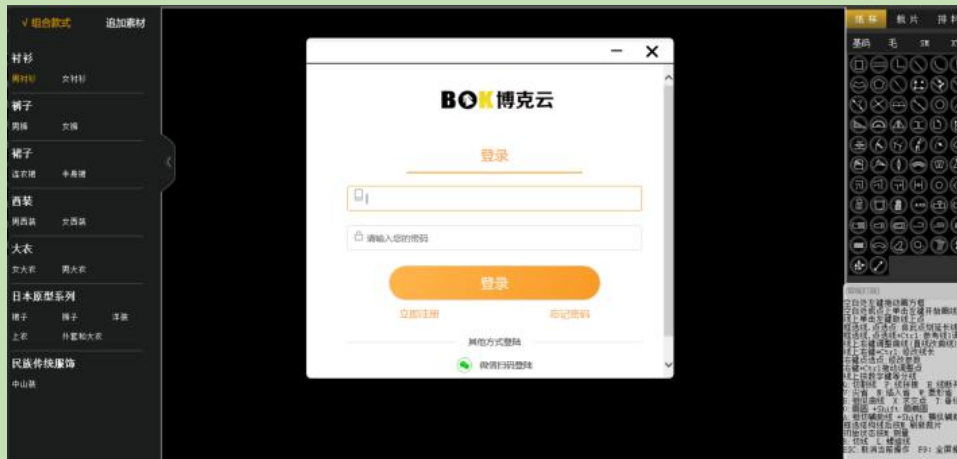

Figure 2-23
1.Cloud material library: Enter the cloud material center to select different styles of clothing for automatic design. Log in to the account registered on Bok Cloud. If there is none, click "Register Now" and register with a mobile phone number. (As shown in Figure 2-23).